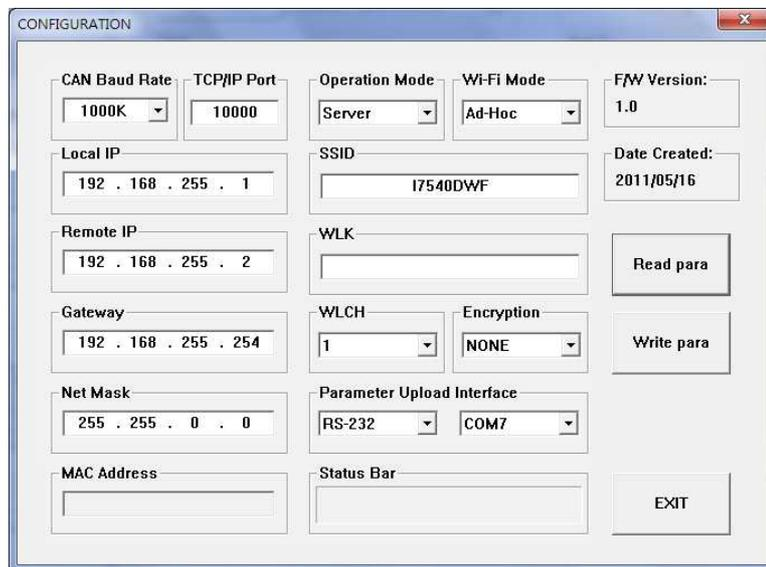

Figure 4-4: Server connection mode
- 01 、 CAN Baud Rate : It can help users to set the CAN bus baud rate according to the actual connection. The case is set as 1000K bps in Figure 4-4
- 02 、 TCP/IP Port : This field is used to set TCP/IP port of Connection according to the actual conditions. The case is set TCP/IP port as 10000 in Figure 4-4